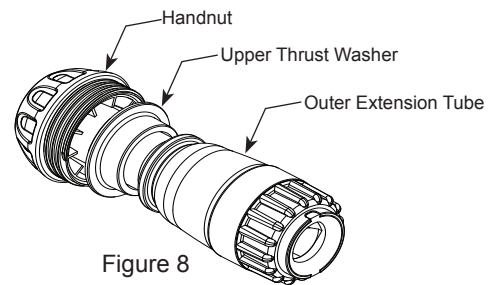

Figure 8
3. Thread on the outer extension tube and slide the thrust washer and the handnut over the outer extension tube (see Figure 8).